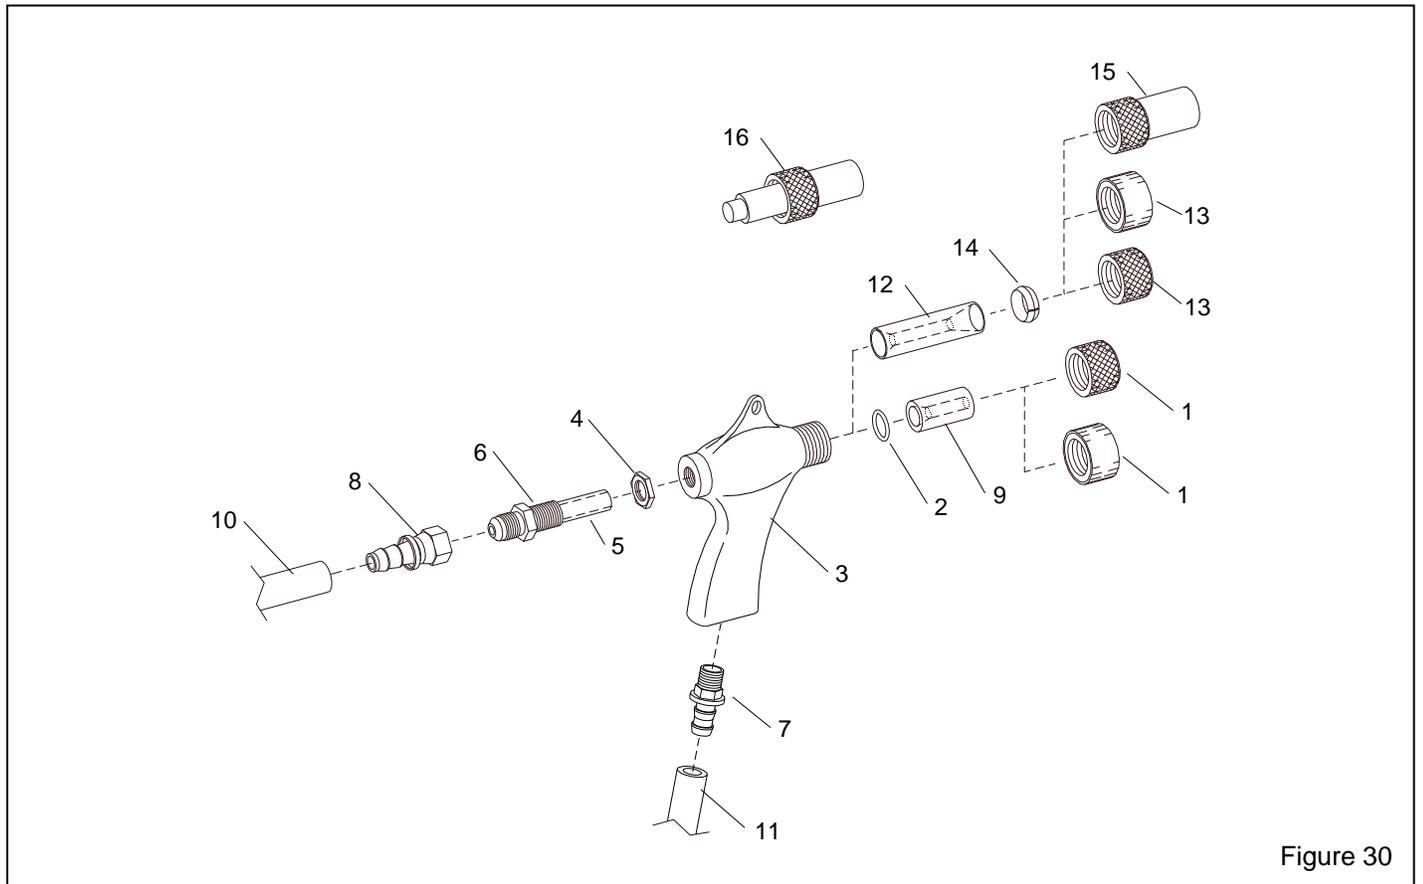

Figure 30
9.3 BNP Gun and Feed Assembly, Figure 30